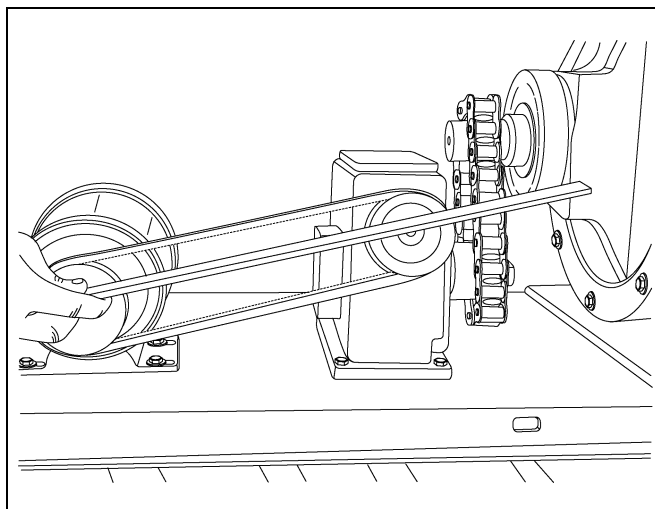

Figure 7K
9. Next, place the A-24 belt onto the pulleys. (See Figure 7K.) Tighten the belt to its proper tension of 3/8" deflection at 10 pounds of pressure by pulling motor away from gearbox. Tighten the four (4) 5/16" flange bolts on the motor base. Replace the belt shield.